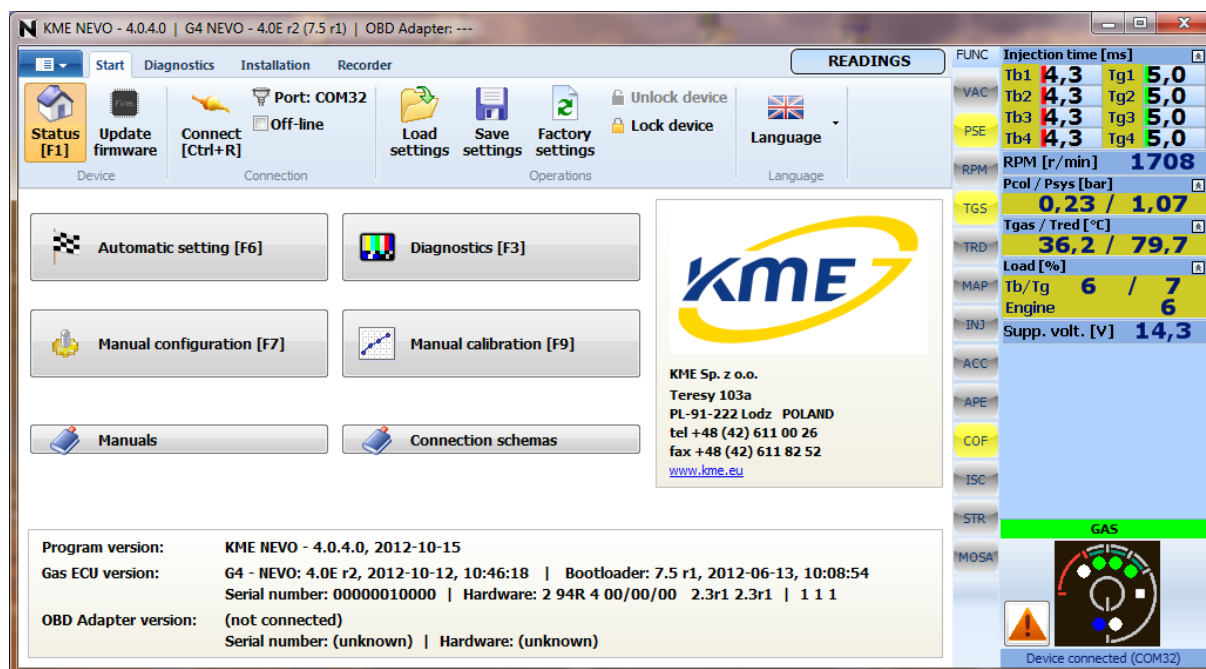

Fig. 3.1 Starting view.
After launching the program the starting window appears on screen (**Fig. 3.1**). After installation and launching, the program should automatically connect to the controllers through COM or USB interfaces.
- **Status** (F1) – shown after starting the program, indicates current driver, OBD adapter and program status: firmware, hardware and software version, serial numbers; it has four button (Fig. 3.1 Starting view.)